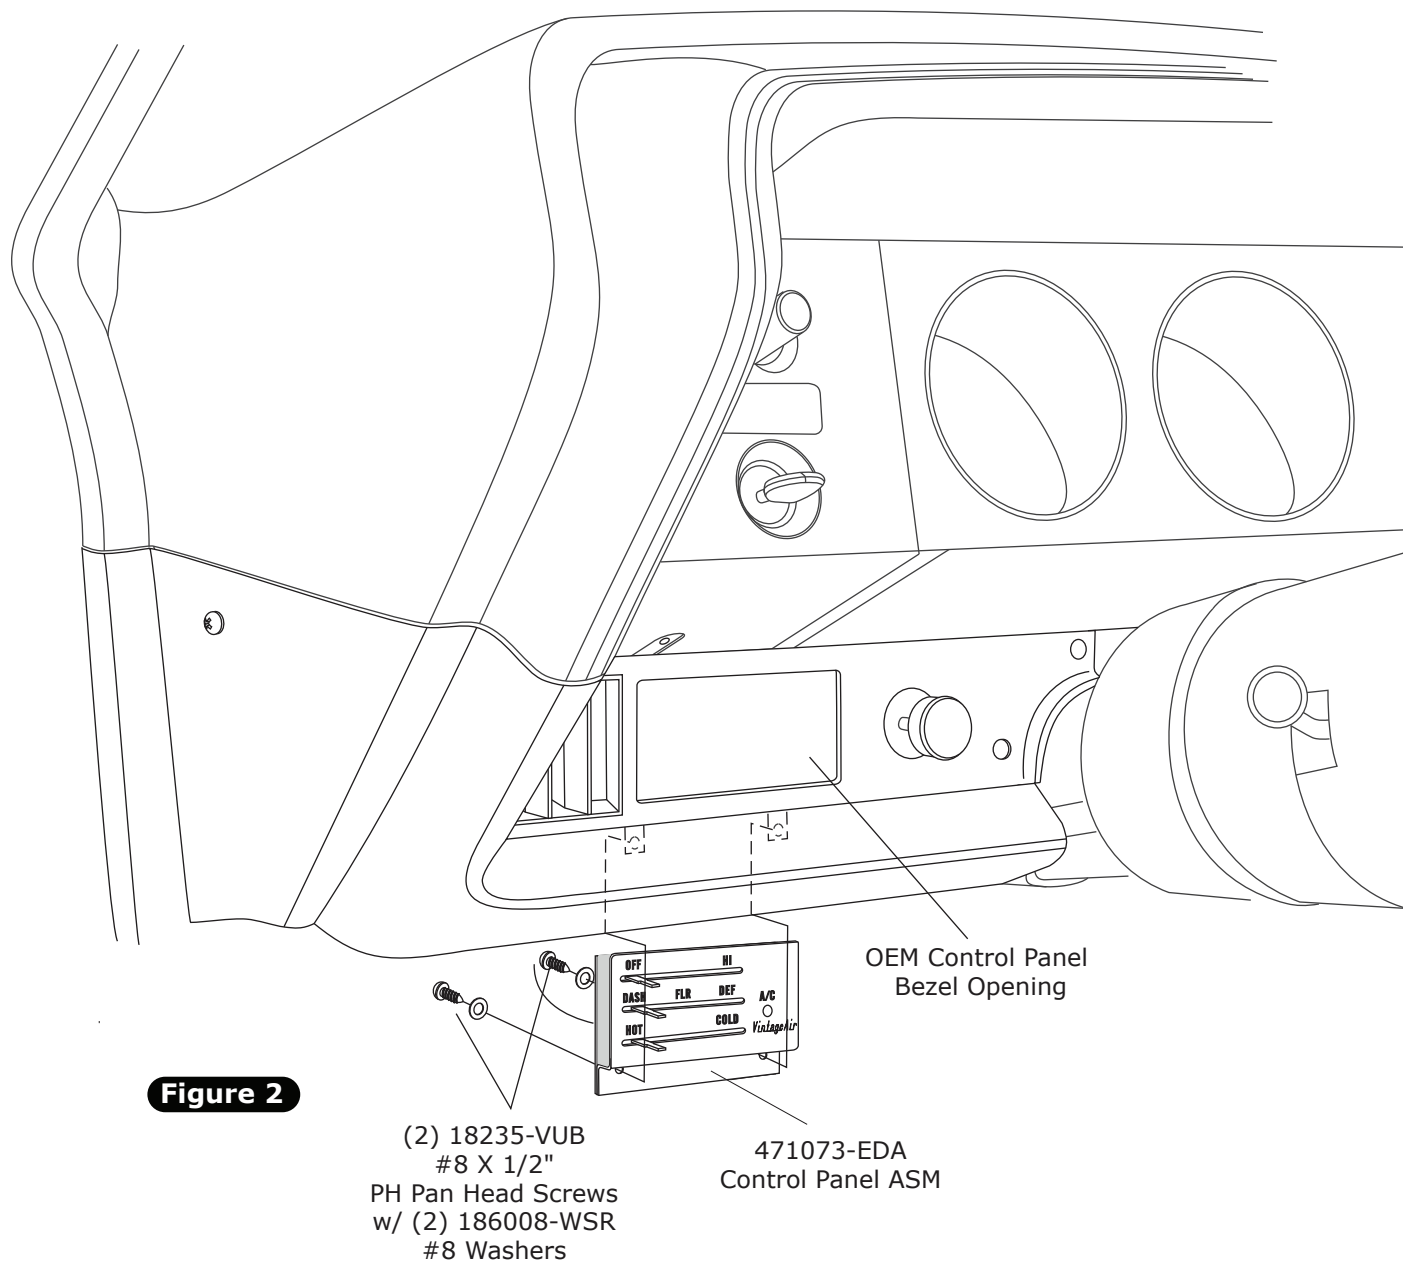

Figure 2
1. Install control panel assembly from under the dash in the opening of the OEM control panel bezel as shown in Figure 2, below.
2. Secure the control panel assembly to the dash using (2) #8 X 1/2" PH pan head screws as shown in Figure 2, below.